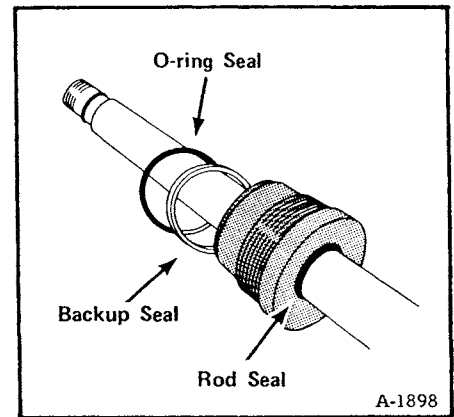

Fig. 2-22 Installing Cylinder Head
- (1) Install the cylinder head seals and put the cylinder head carefully onto the cylinder rod (Fig. 2-22).
- (2) Install the spacer onto the rod (lift cylinder only).
- (3) Install the piston seals and put the piston onto the end of the cylinder rod.
- (4) Install the piston locking nut and tighten it.
- (5) Install the rod and piston into the cylinder case. Use caution to prevent damage to the O-ring.
- (6) Install the cylinder head and tighten with the spanner wrench.
- (7) Install the cylinder on the machine. Install pivot pins and cross bolts. Tighten 3/8" cross bolts to 20 ft.-lbs. torque. (To install the lift cylinder, connect the hydraulic hoses first. Then, install the pivot pins.)